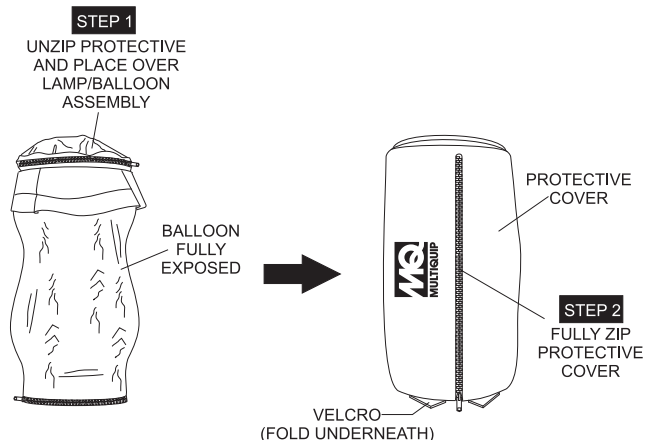

Figure 18. Covering the Lamp/Balloon Assembly
6. Unzip the protective cover as shown in Figure 18, and place cover over balloon/lamp assembly. Fully zip protective cover and fold velcro tabs in place.